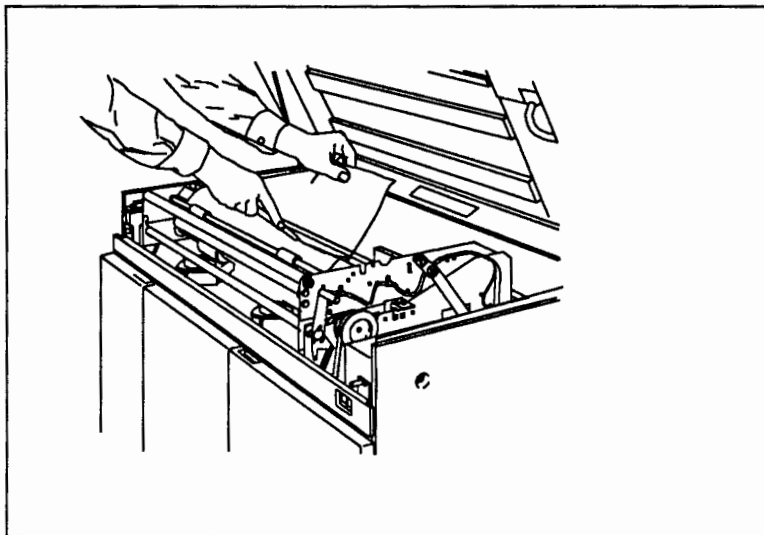
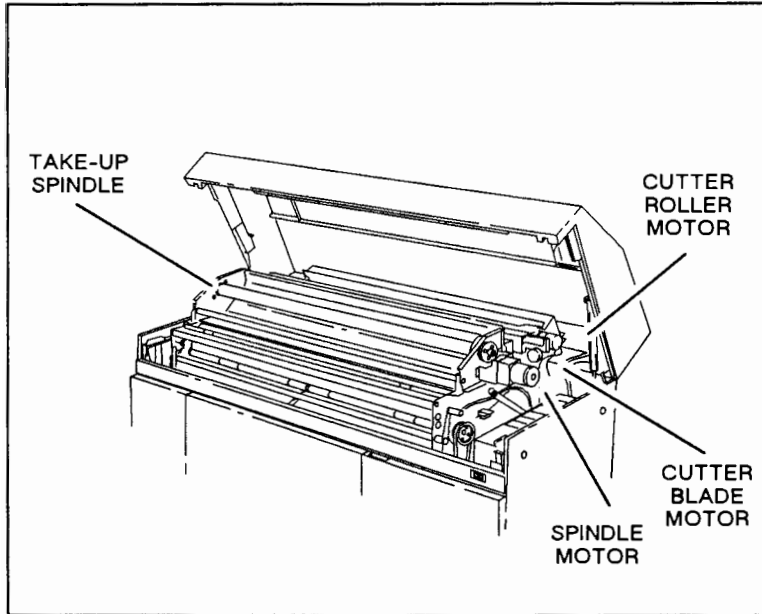

Figure 2-24. Cutting the Media
Figure 2-25. Upper Frame Assembly
- n. For the Model 240D or 240E, use the media cutter from the supplies box, and cut the excess media off flush along the groove in the guide as shown in Figure 2-24. For the Model 250/255 See Figure 2-25 for the different upper frame assembly, and determine whether the plots are to be rolled or cut into sheets. If the plots are to be rolled, follow the steps under paragraph 2-37. If the plots are to be cut into sheets, follow the steps under paragraph 2-40.